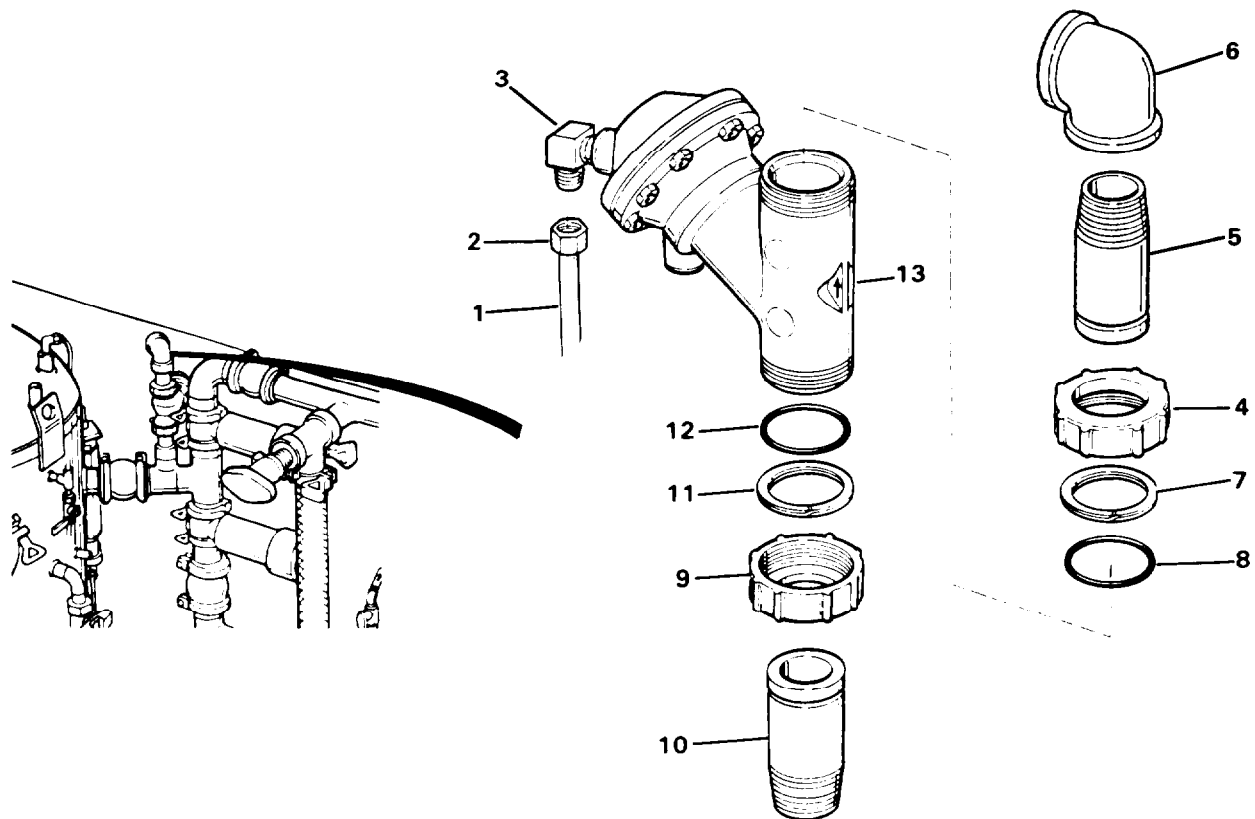

Figure 4-54. Safety Relief Valve
- a. Disconnect air line (1, Figure 4-54) by loosening compression nut (2).
- b. Loosen nut (9) and remove valve assembly from piping.
- c. Remove nipple (10), split ring (11) and preformed packing (12) from valve assembly (13).